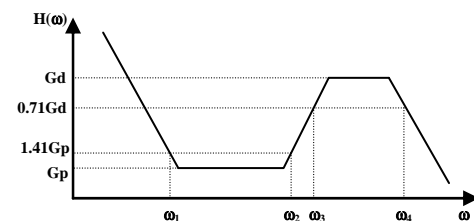

Figure 11. Transfer Function of the Compensation Network
The transfer function of the compensation network, defined as $H(\omega) = VTEC(\omega) / TEMPOUT(\omega)$, is shown in Figure 11.
- d. $C_D \cdot R_I$ determines the corner frequency, $\omega_2 = 1/(C_D \cdot R_I)$, where the differential component starts picking up (see Figure 11), as the frequency goes up.